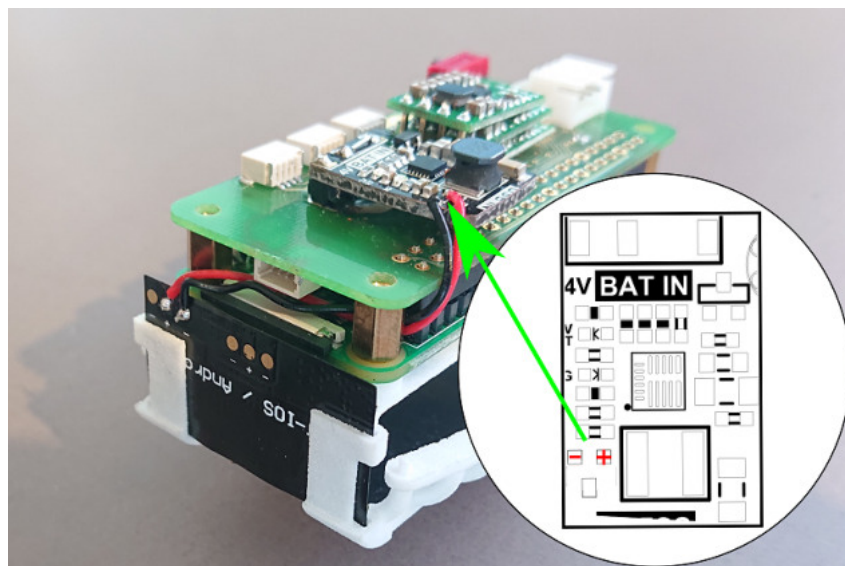

**Fig. 16.** Assembly of the charging coil to the Power and Compute Module.
If you want to have the wireless charging feature for the robot, you will have to attach the charging coil to the Solarplexus as shown in Figure 16. First insert the Charging Board into the slot at the front of the Solarplexus (A), then you can bend the coil on to fit into the bottom of the Solarplexus and glue it in place with the Epoxy (B). Finally add the Protective shield that comes with the charger into the battery compartment.